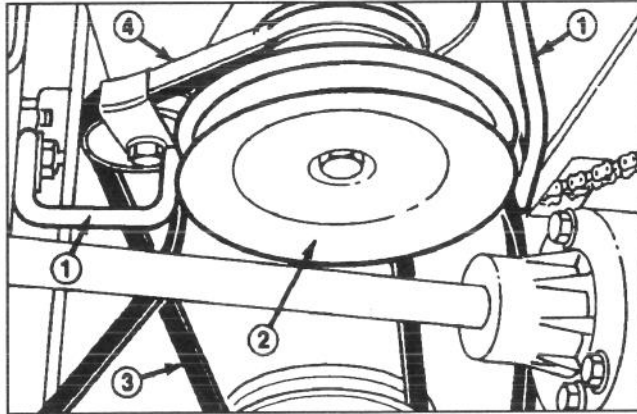

Figure 23
2. Set the height-of-cut control to the lowest setting and loosen the belt guides near the engine pulley. Remove the belt from the engine pulley (Fig. 23).
3. Loosen and remove (1) mounting screw securing each belt guide to the cutting unit. Pivot the belt guides away from the spindle pulley and remove the belt. Visually inspect the belt for wear or damage (Fig. 23).
4. Replace the belt guides for the transmission pulley and retighten the belt guides on the engine pulley. Install the belt retainer on the idler pulley positioned toward the rear as shown in Figure 23.